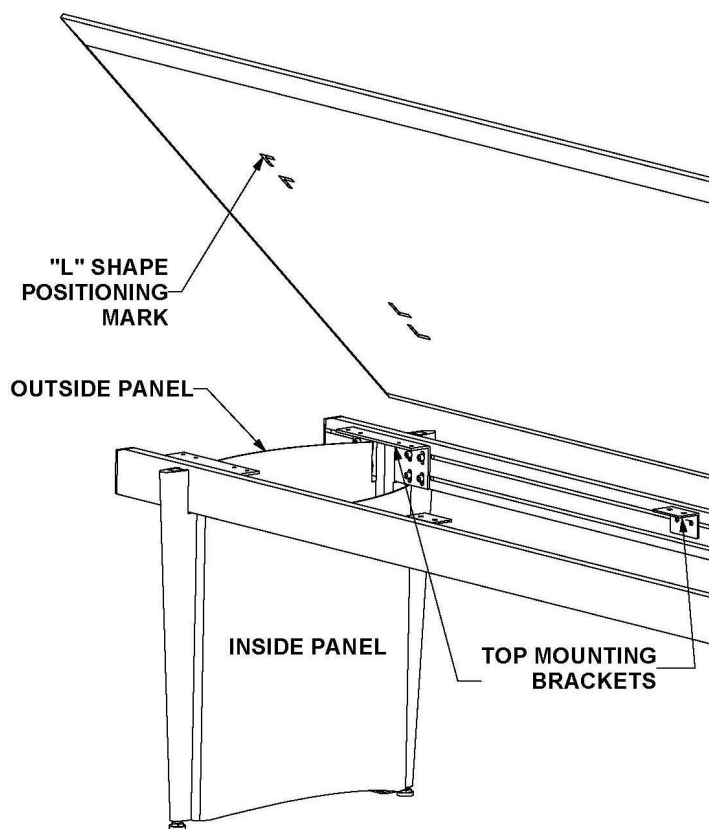

Figure 4
7. Place Top onto Base and Beam structure. Center Top using the "L" shape marks on the underside of the Top as a guide. Pre-drill 5/32 x 3/4" deep holes corresponding to the Top Attachment Brackets. Attach Base and Beam structure to Top using olive colored #12 x 1" Wood Screws provided (See Figure 4)
8. Base Panels: The Base Panels are designed to bend into place. Place one side of the Panel into Panel Retention Rail and flex Panel positioning the opposite side into the opposite rail. Make sure shorter Panel is on the inside and the taller Panel is on the outside. The curved end should be oriented towards the floor to allow wire passage if needed (See Figures 4 & 5)